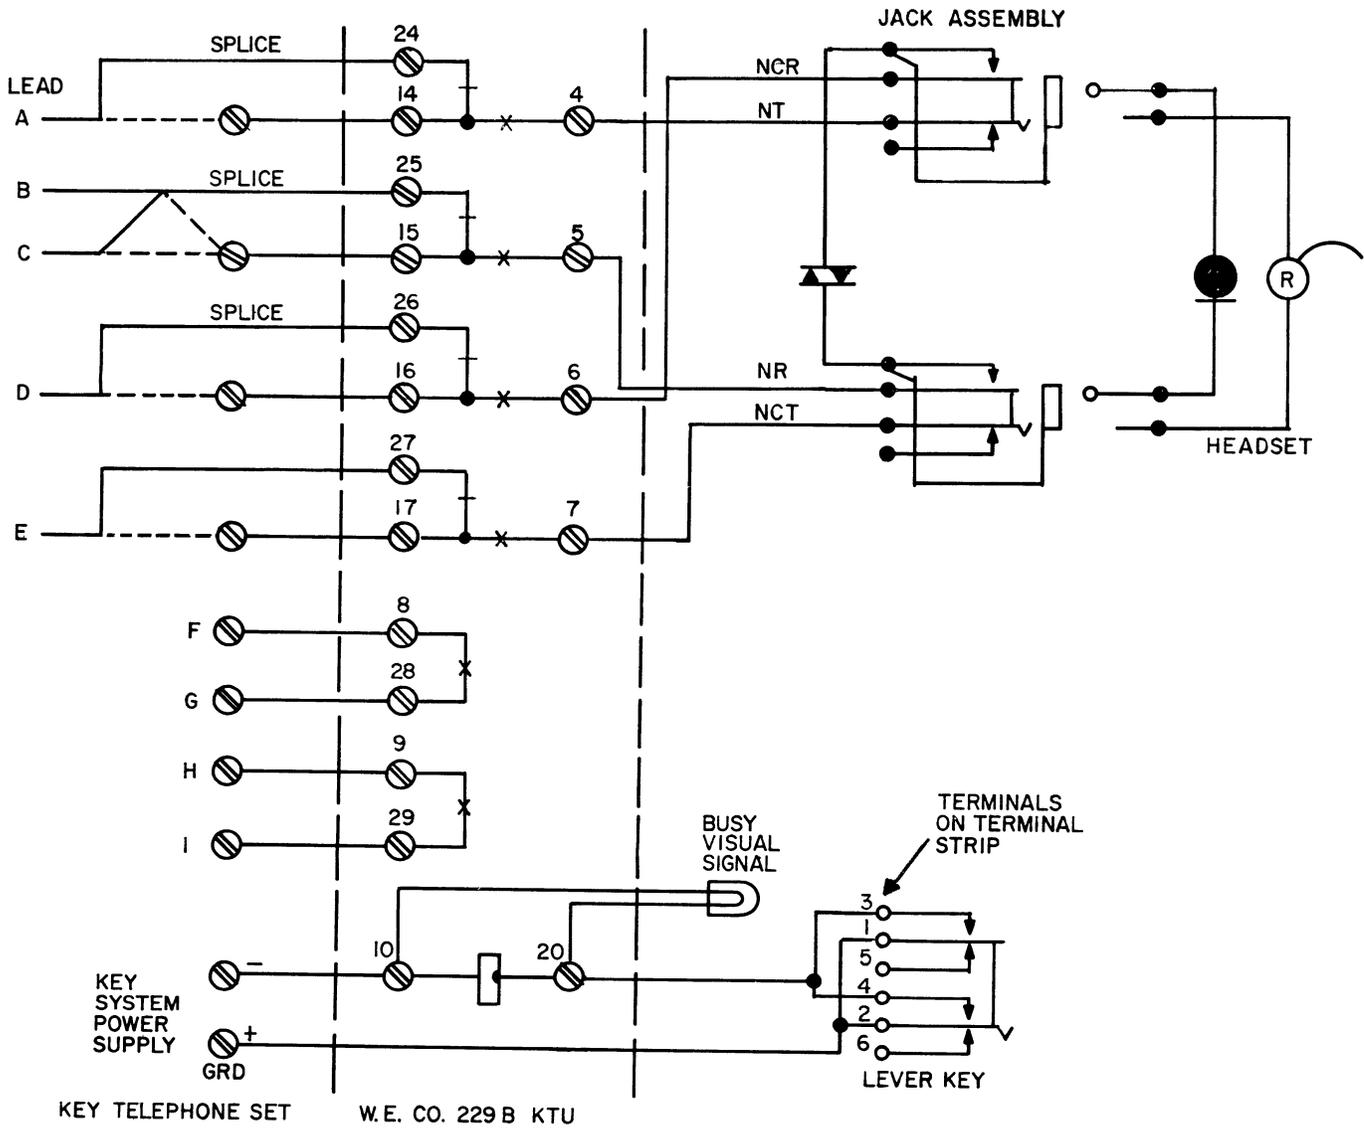
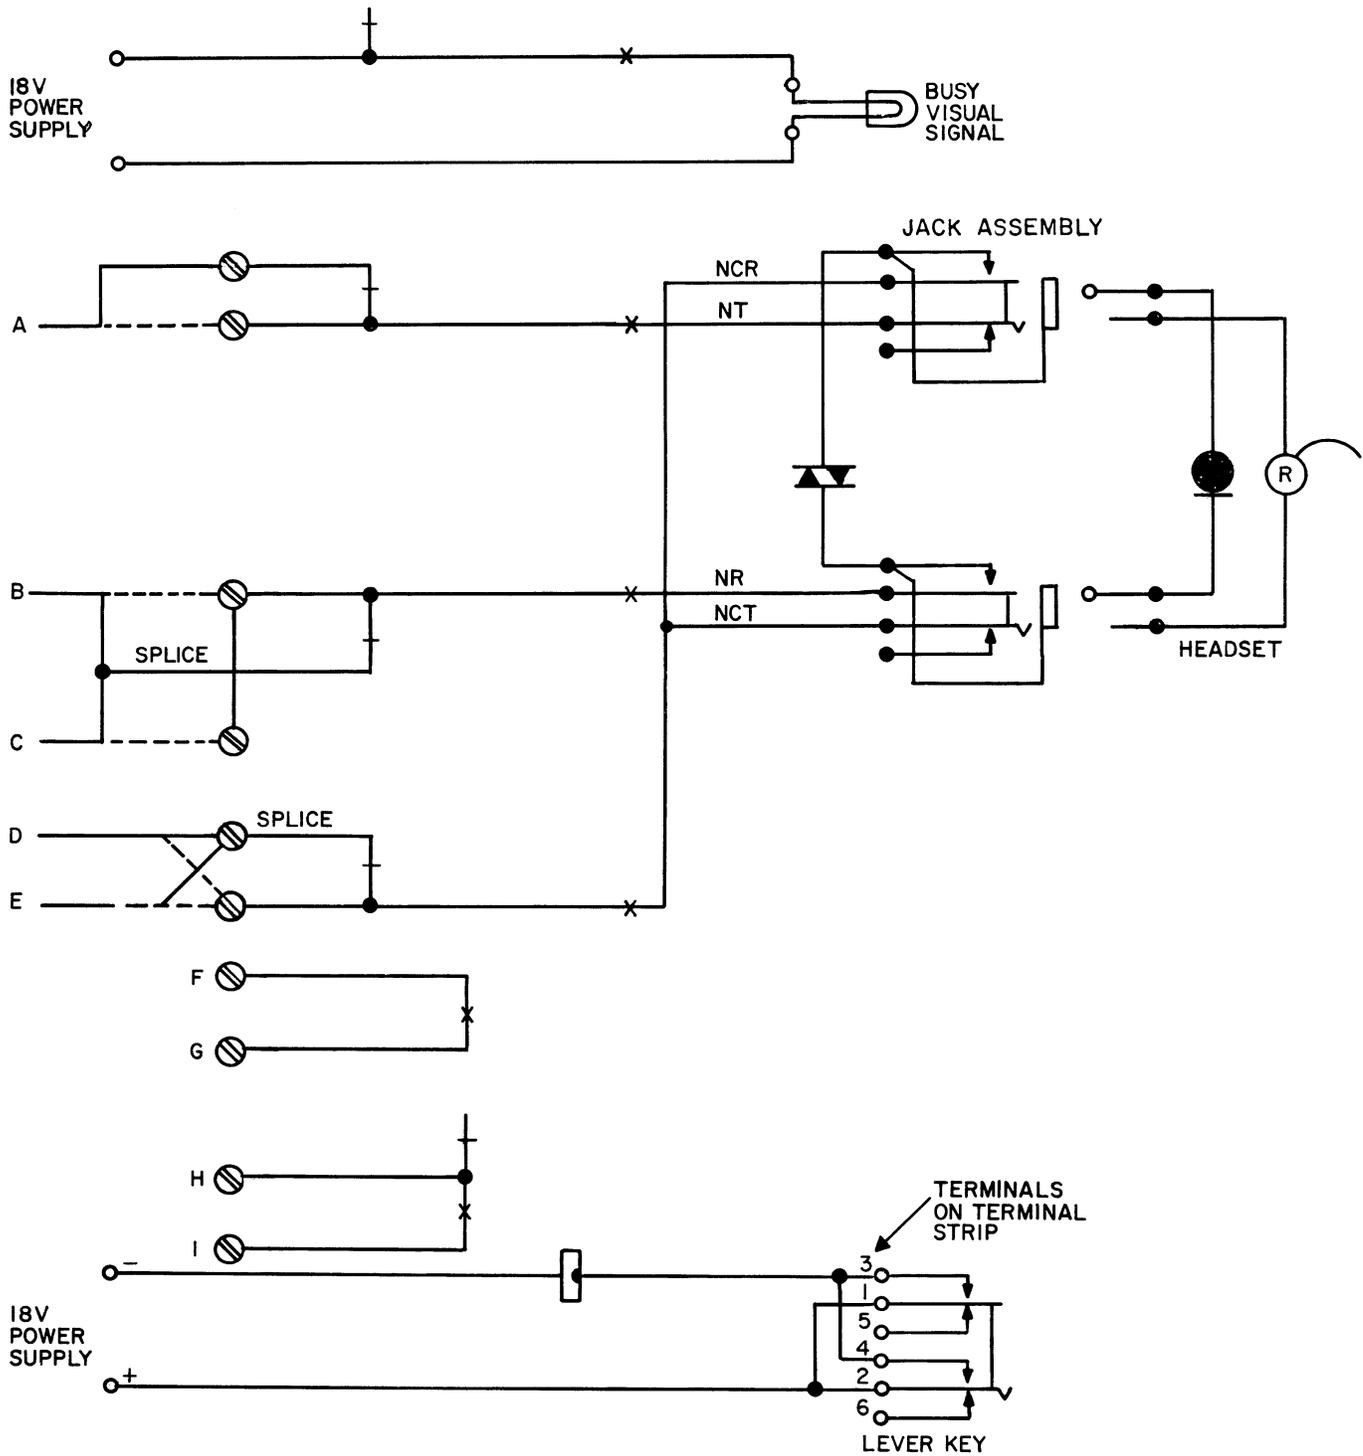

Figure 7. Relay Controlled Auxiliary Headset Connection Diagram for Touch Calling Telephones.
Figure 8. Relay Controlled Auxiliary Headset Connections to Conventional Dial Telephones.
2.04 At a station served by a 10A1 key system, the need for A-lead control in addition to other functions exceeds the capacity of the lever key. Therefore, the relay-controlled auxiliary headset (Figure 7 or 8) must be used in this application. Voltage for operating the relay is obtained from the key system power supply.
- (4) Using hardware appropriate for the type of mounting surface, mount the lever key in the desired location.
- (5) Mount the apparatus cabinet containing the KTU, in a location which is convenient to the telephone set, lever key, and jack box locations.
- (6) Remove the telephone set housing.
- (7) Using 16-conductor, 26 AWG., stranded cordage, make connections between the KTU and the key telephone set according to Figure 7 and Table 3. Use pressure-cripped spade lugs for terminating the cordage leads.
- (1) Install the associated key telephone set according to the appropriate section in this division of General System Practices.
- (2) Install the KTU in the apparatus cabinet.
- (3) Remove the cover from the lever key.
- (8) Using station wire, connect the lever key to the KTU as shown in Figure 7.
- (9) Assemble the jack box kit as follows:
- (b) Using station wire, attach leads to the jack terminals as shown in Figure 7.
- (c) Install the varistor on the jack terminals, connecting it to the jacks as shown in Figure 7.
- (10) Install the BUSY visual signal, equipped with the switchboard lamp,
in a conspicuous place near the associated key telephone set. Use station wire to connect to the KTU as shown in Figure 7.
2.12 The relay-controlled auxiliary headset with hookswitch function may be used with any conventional telephone set, by providing a separate 18-volt power supply for powering the KTU and BUSY visual signal. Connect this type of arrangement to Touch Calling telephones according to Figure 7 and Table 4. For connections to rotary dial telephone sets, refer to Figure 8 and Table 5. Except for mounting and connecting the power supply, install as instructed in Paragraph 2.09. See the appropriate section in the 490-100 Series of General System Practices for instructions for installing and connecting the power supply.